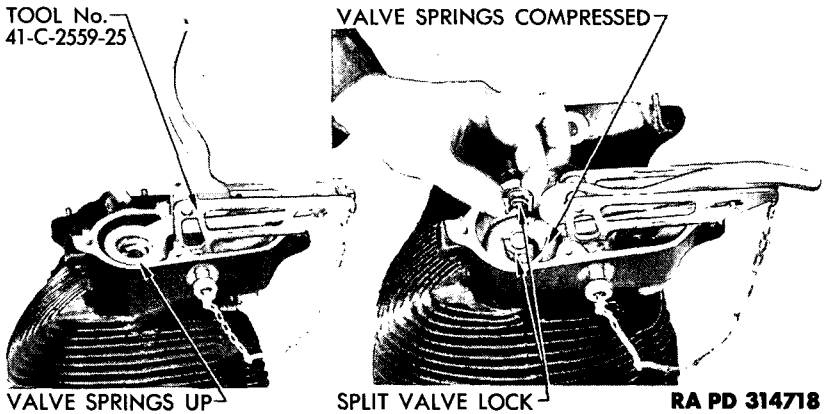

Figure 101 – Removing Valve Lock with Compressor Tool
(2) **USING COMPRESSOR.** Place cylinder assembly over wood block. Install valve spring compressor (41-C-2559-25) on one of the rocker boxes by inserting compressor pin through rocker arm hub bolt holes (fig. 101). Pull down on compressor lever until cam action of lever holds valve springs compressed. Remove split valve lock (fig. 101). Raise up compressor lever and release valve springs. Take compressor off rocker box. Remove valve spring outer washer and the three valve springs. Remove other valve springs in same way.